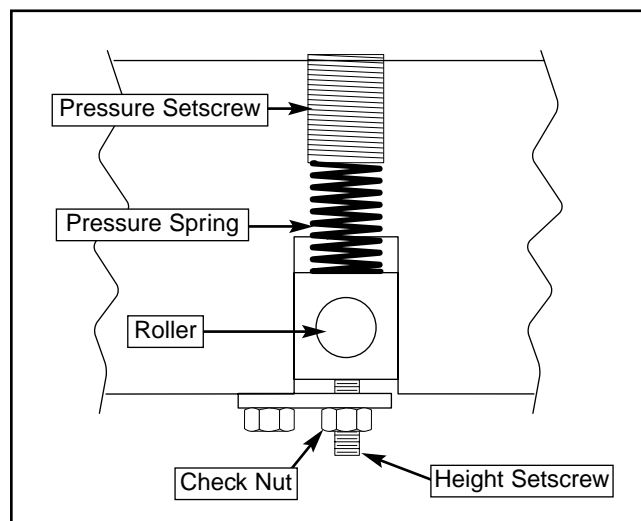

Figure 26. Roller pressure assembly.
4. Remove the springs that are in the holes left by the setscrews. **See Figure 26.**